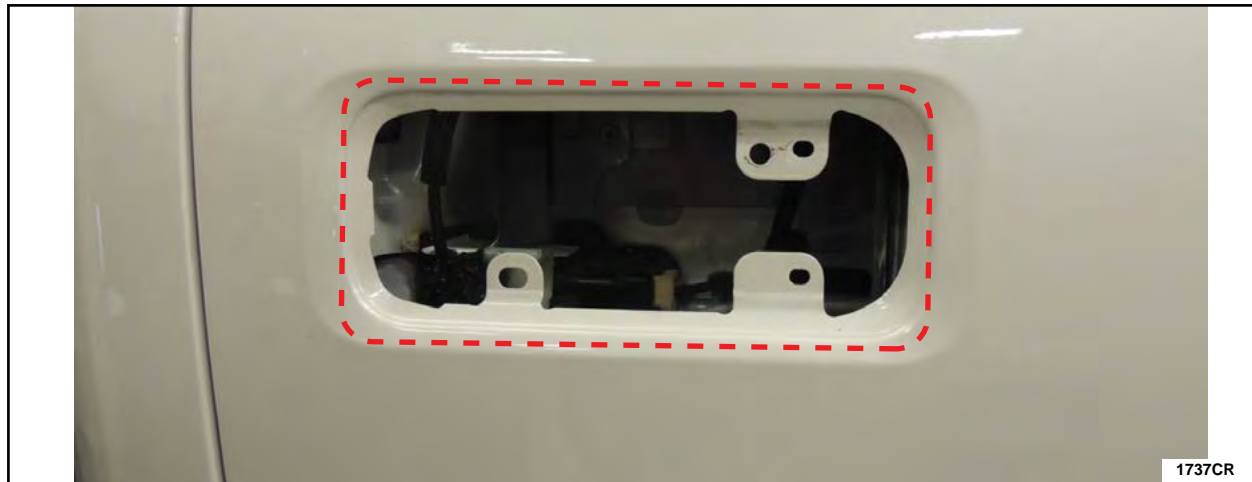

FIGURE 90
20. Using a clean shop cloth and isopropyl alcohol, clean inside the dotted lines on the mating surface area of the exterior door handle opening. See Figure 90.